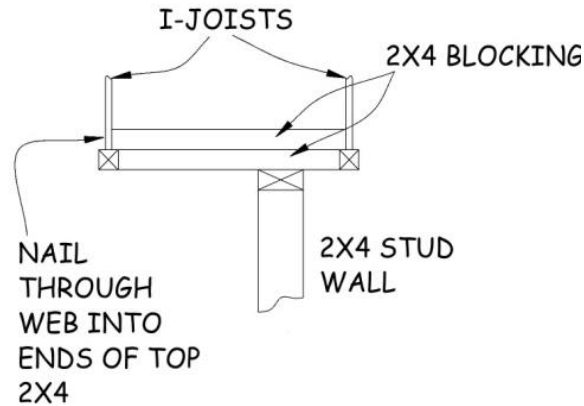

Figure 6-5. Blocking for Attaching Basement Walls Between I-joists.
7. Walls parallel to the I-joists require blocking at the top. Nail 2x4s between the bottom I-joist flanges at 24" O.C., flush with the bottom of the I-joist flange. See Figure 6-5.